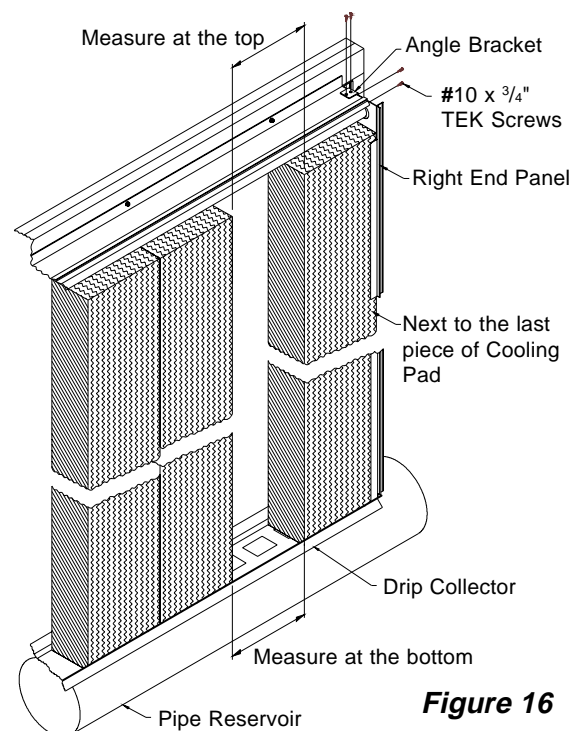

Figure 16
- 24) While holding the right end panel tightly in place slide the next to the last piece of pad into the end panel. Measure the opening that is left for the last piece of pad at the top and bottom of the opening. If the opening is smaller than the width of the last piece of pad, then using a hand saw trim the last piece of cooling pad to fit the opening. Put the last piece in place and secure the end panel to the framed opening using the #14 x 1 1/2" Lag screws. **See Figure 16.** Attach the angle bracket to the distribution cap and right end panel using (4) #10 x 3/4" TEK Screws (provided), refer to Step 20.